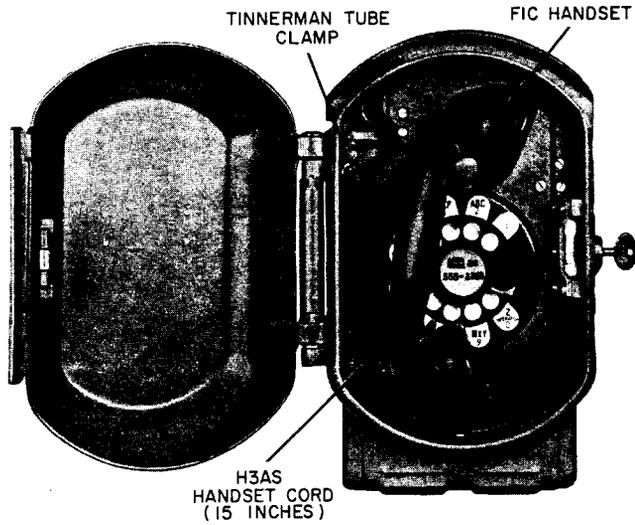

Fig. 2—325-Type Telephone Set (Dial)
- Self-locking outer door (Fig. 2)